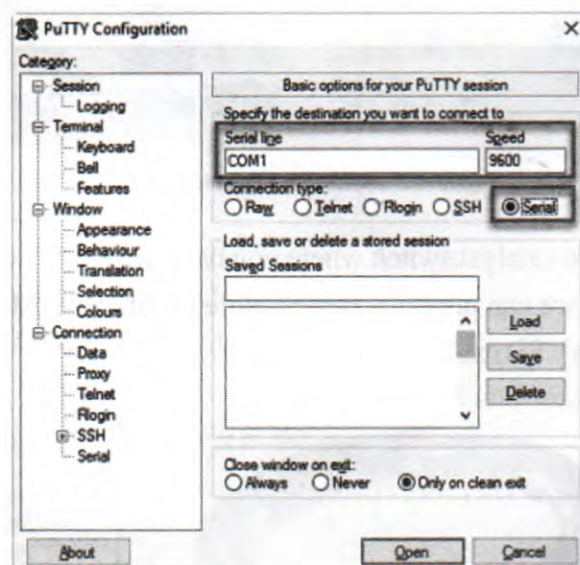

Figure 4.4 : Putty Interface
- Run the program and the Figure 4.4 is displayed.